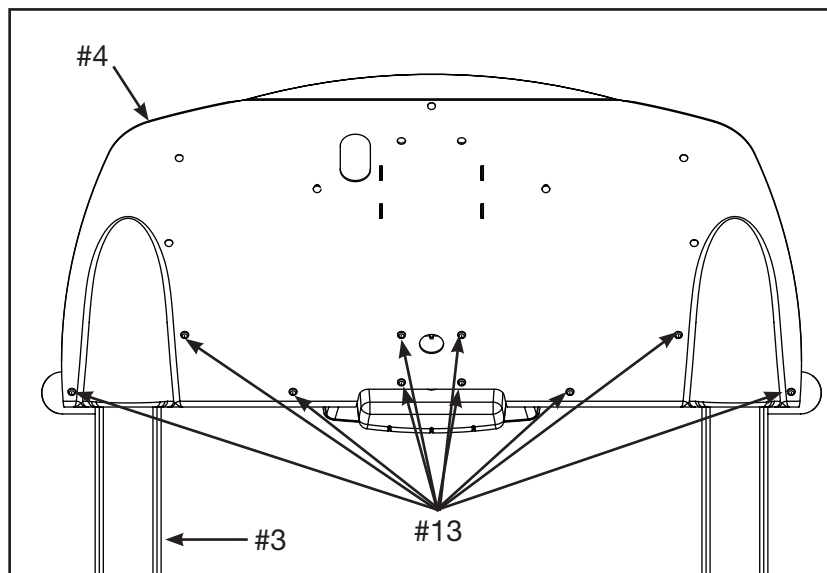

Figure 6
- D.** Using a Phillips screwdriver secure the console back (#4) to the upright assembly (#3) using ten screws 8-32 x .38" (#13). Fully tighten the two screws installed in step 7C. See Figure 6.